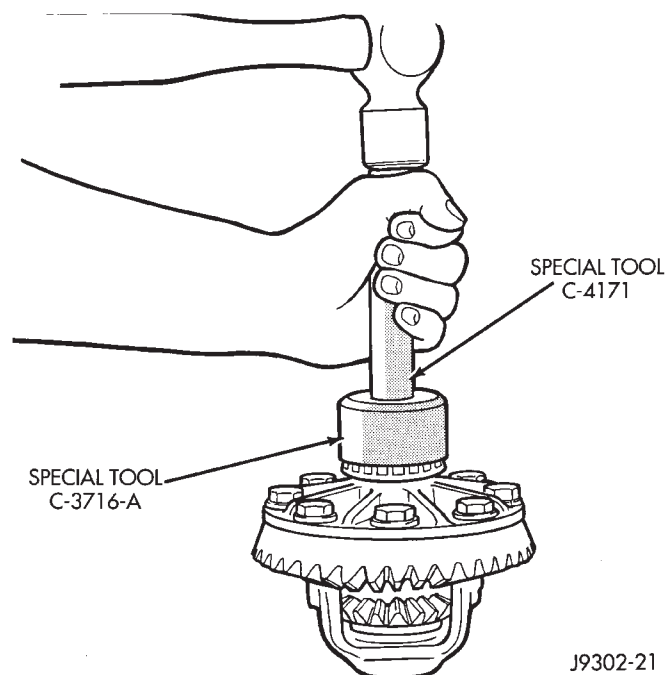

Fig. 38 Differential Side Bearing Installation
(1) Using Installer C-3716-A and Handle C-4171, install differential side bearings (Fig. 38).